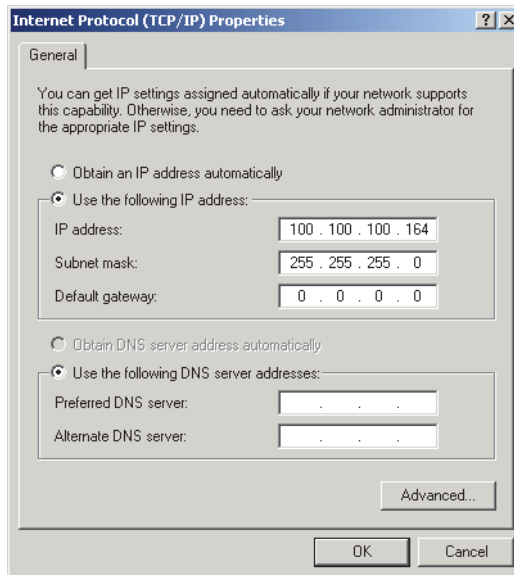

Figure 14.2. TCP/IP Properties dialog box using static addresses
- Under the General tab, click the entry for **Internet Protocol (TCP/IP)** and click the **Properties** button. The TCP/IP Properties dialog box appears (see Figure 14.2).